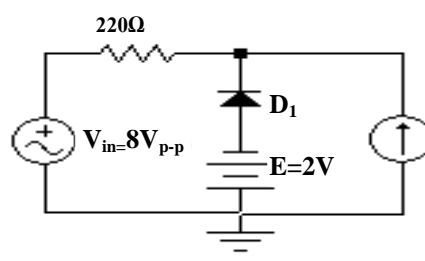

Fig. 2
1. Set up the experiment as in Fig. 2.